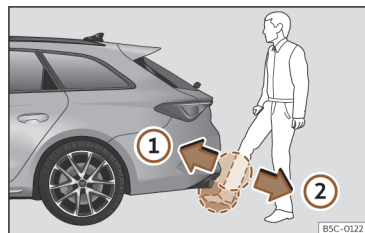

Fig. 82 Rear lid with sensor-controlled opening (Easy Open).
- With a brisk movement, bring your foot and lower leg as close as you can to the bumper. The lower part of the leg needs to be close to the upper sensor area and your foot to the lower sensor area >>> Fig. 82 ①.
- Quickly remove your foot and lower leg from the sensor areas >>> Fig. 82 ②. The rear lid will open automatically.